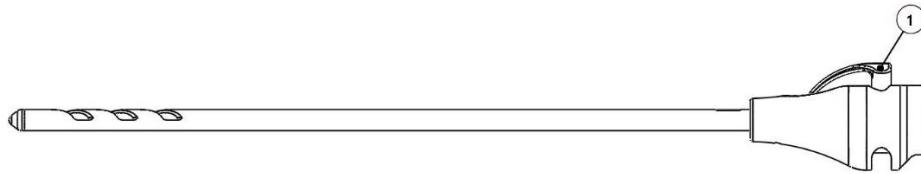
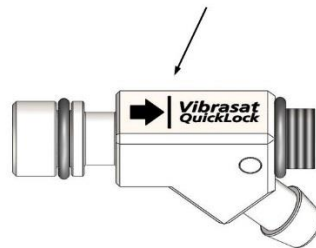

Figure 4
Figure 5
- Connect a suitable cannula for the application to the cannula holder. For this, hold the lock (*Figure 4, Point 1*) pressed down whilst attaching until the square of the cannula hold locks into place. Then push the cannula at the attachment further, beyond the marked line (*Figure 5*), until it audibly clicks into place.